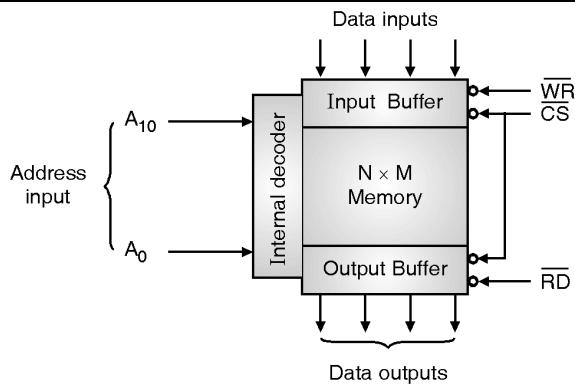

Fig. 11.6.1 : Block diagram of a memory device
- The read / write memories consist of an array of registers wherein each register has a unique address. Fig. 11.6.1 shows the block diagram of a memory device.